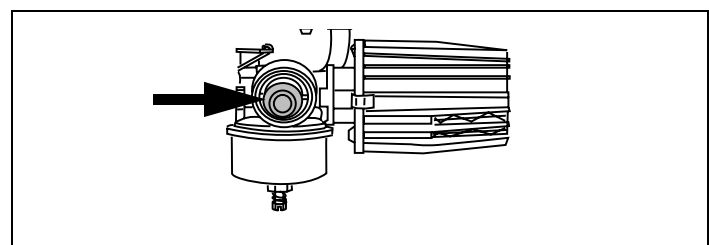

Figure 16. Primer Bulb
4. When starting a cold engine, push primer bulb firmly with your thumb 3 times, allowing primer bulb to return completely to original position between pushes. See Figure 16.